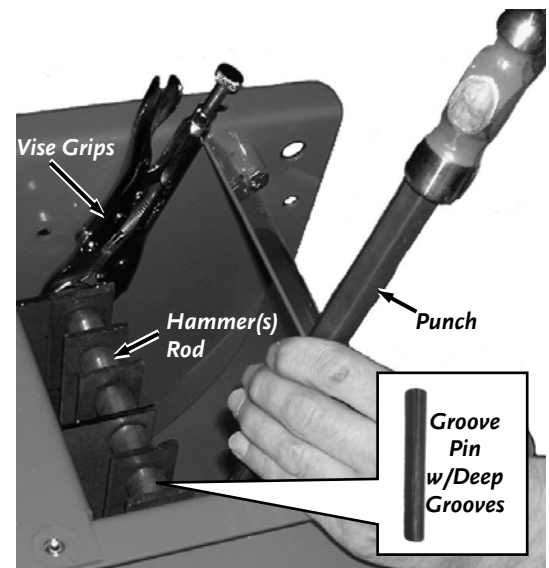

Figure 27
6. Rotate the Hammer(s) Rod until the Deep Grooved end of the Groove Pin at the end of the Rod is pointing down (**Figure 27**).
7. While holding the Hammer(s) Rod in place with Vise Grips, drive out the Groove Pin with a punch (**Figure 27**).